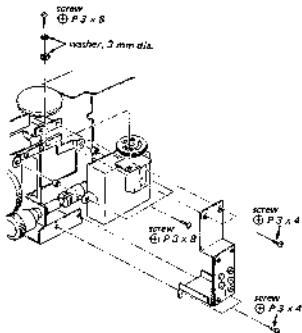

Fig. 2-3.
2. Set the fm front end with three screws. See Fig. 2-3. above.